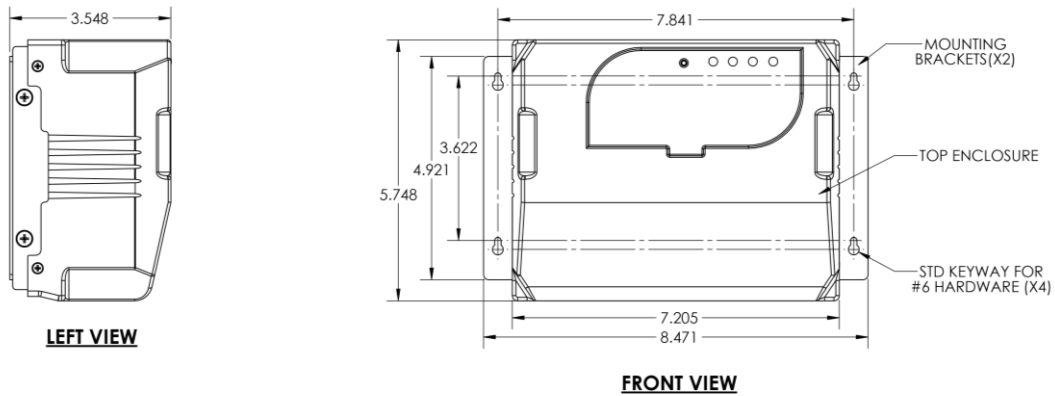
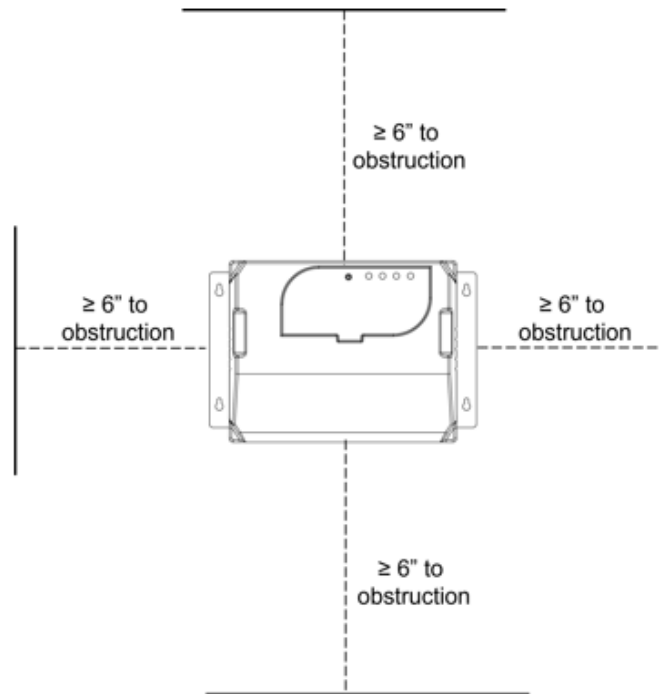

Figure 1 – LMESpro Mounting Dimensions
Figure 2 - Distance to obstruction of free air flow
When mounting the LMESpro, the location chosen for the charger should be within an ambient temperature range of -40 to 122°F (-40 to 50°C) with a non-condensing relative humidity no higher than 95%. The LMESpro should be mounted in an area free of flammable & explosive materials and away from drips, splatter, or moving parts. To be mounted on a non-combustible surface. The LMESpro utilizes convection cooling with a heat-sink facing the mounting surface; mount in an upright position as shown in Figure 1 to promote convection air flow. Provide clearance for at least 6in (152mm) of free air must be maintained on the left/right sides, and at least 6" (152mm) top/bottom sides for cooling. Maintain 36in (914mm) or more of clearance at the front of the charger in order to allow for operation and maintenance. Install the LMESpro using appropriate hardware on the wall. When using multiple adjacent LMESpro chargers, do not mount them 1 above the other, mount them side-by-side with a minimum of 6" between them. Avoid mounting the LMESpro directly over another heat source.
**1 indicates a switch is in the down position and 0 indicates a switch is in the up position. Refer to Figure 1 & Figure 2 below for examples.*